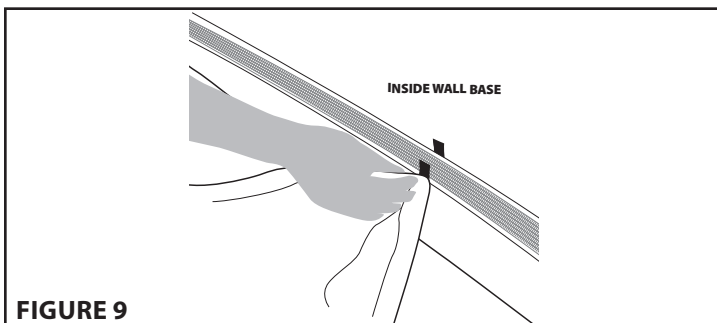

FIGURE 9
3. Start at the center of each wall using the colored aligning tabs as guides. Press the hook and loop strips together, working towards the corners. [**SEE FIGURE 9**]